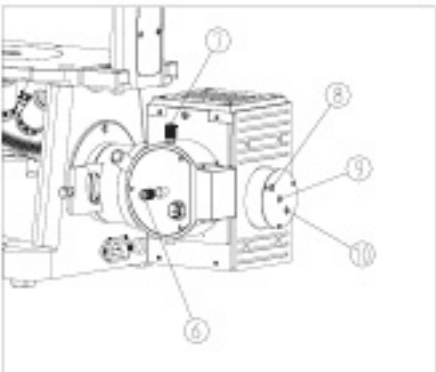

Figure 19
(6) Adjust focusing screw 9 for reflecting lens, horizontal centering screw 8 for reflecting mirror, vertical centering screw 10 for reflecting lens to make the bulb reflected image on white paper. (Fig. 19, 20b)
(7) Adjust screw 8 and 10 to make the bulb image and bulb reflected image symmetry. Adjust screw 10 to make
both images with same size. (Fig. 19, 20c)
(8) Adjust screw 6 to make the two images superposition. (Fig. 19, 20a)
(9) Turn 10X objective into light-path and set slide on stage for observation under B1. Find the image and make it clear.
(10) Observe through eyepieces and adjust focusing lock-knob 5 to make view field to best, then lock the knob.